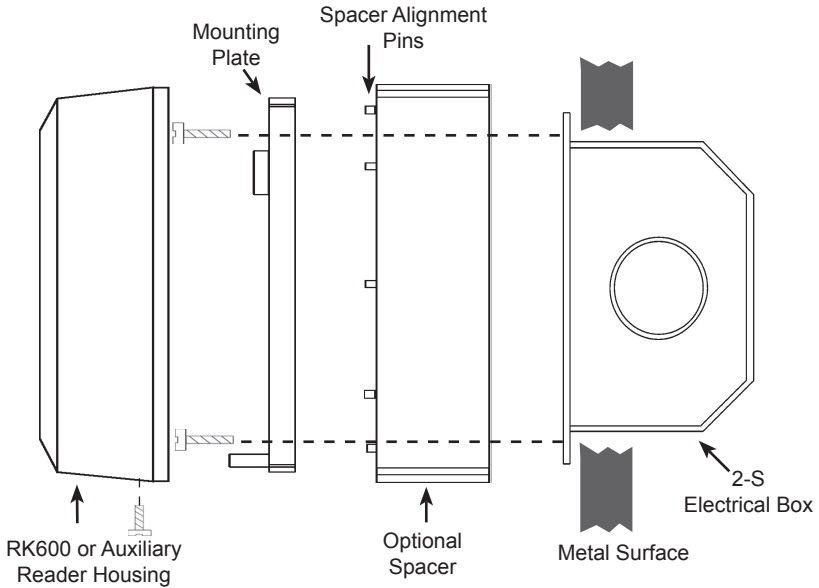

Figure 5 - Wall Mounting on Metal Surface with Optional Spacer
When mounting the unit on metal, install the optional Back Box / Spacer (Figure 5) between the mounting plate and the mounting surface to minimize the loss of reading distance caused by the metal. The spacer can also be used on non-metallic surfaces to provide additional room for wiring connections.
- a. If using the optional spacer, insert spacer alignment pins into corresponding holes on the back of the mounting plate, then install both parts so that the spacer is closest to the wall or mounting surface (Figure 5).